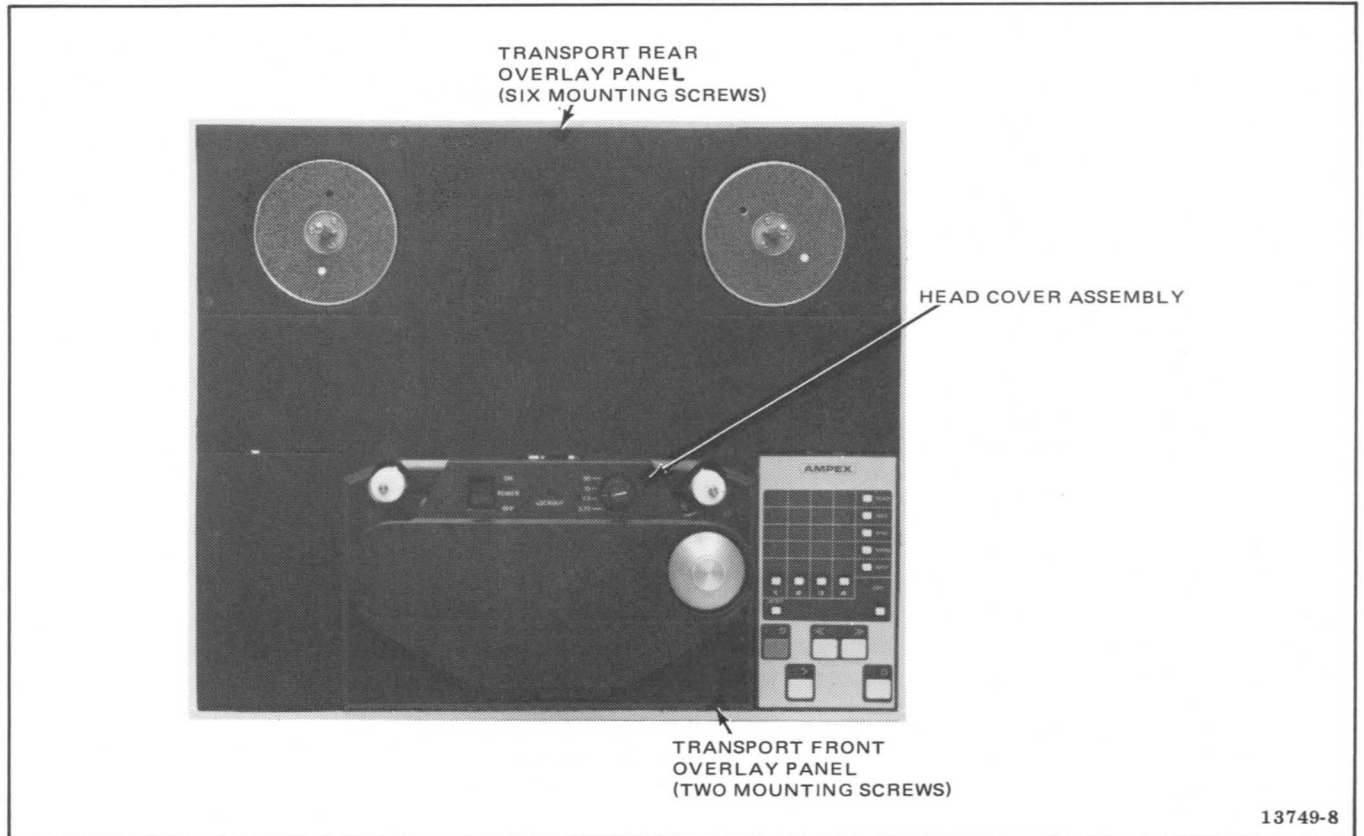

Figure 5-22. Head Cover and Overlay Panels
14. Remove the transport front overlay panel from the top of the transport by removing two screws (Figure 5-22).
- a. Remove head cover assembly and transport rear overlay panel (Figure 5-22).
1. Remove head cover assembly, and transport front overlay panel (Figure 5-22).
1. Remove head cover assembly and front overlay panel (Figure 5-22).